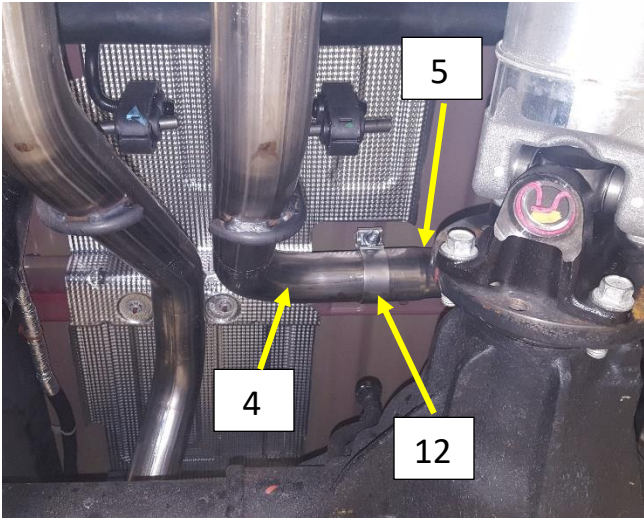
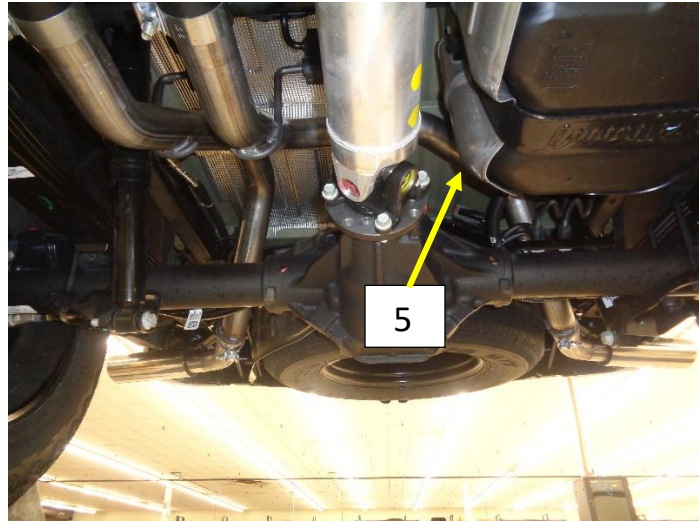

Figure 12
Figure 13
15. Install a 2.5" band clamp (12) on to the expanded end of the left tailpipe B (5). Position the clamp with the bolt at the top of the pipe and the nut facing the drive shaft. **Fig. 12**
16. Install the left tailpipe B (5) on to the tailpipe A above the rear axle. **Fig. 12 & Fig. 13**